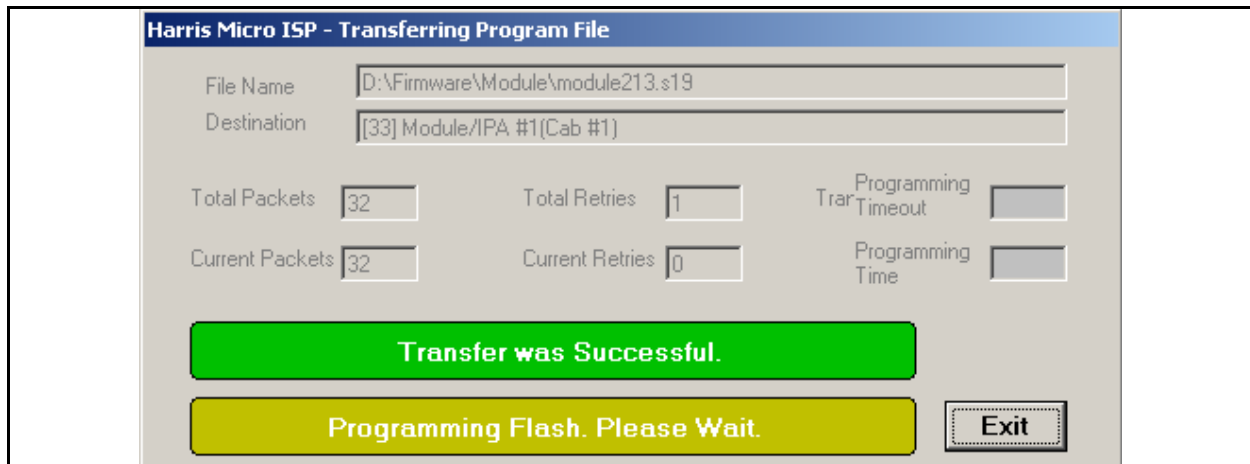

Figure 6-14 Programming Flash
STEP 11 When it has transferred all of the new programming packets it will then take a couple seconds to program the flash chip as shown in Figure 6-14.